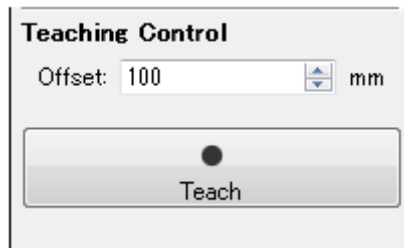

Figure 7-43 Teaching setting
- Click the "Teach" button (Figure 7-43).